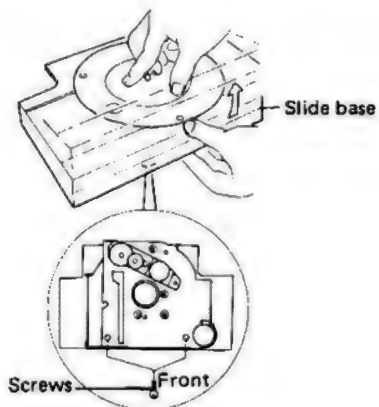

Fig. 5-5 Slide Base Removal
6. The slide base cover is secured to the slide base by hooks. The two front positions are secured by screws. Undo these two screws as shown in Fig. 5-5, and while holding the turntable platter down, remove the slide base by lifting the front.